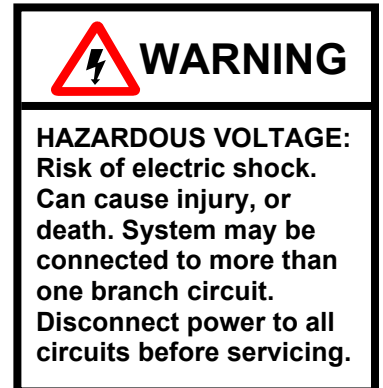

Figure 1
2. Place the control panel bracket into the service position. (Figure 1)